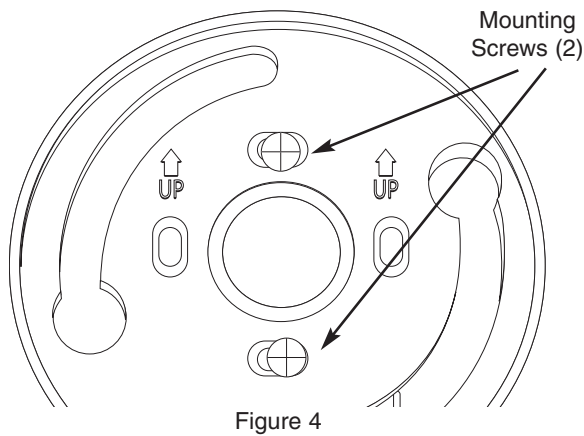

Figure 4
- ② Using the two (2) 8-32 mounting screws mount the dial plate (P/N 3752) onto the tapped holes on the door.
- ③ The dial plate must be centered over the spindle hole. The dial plate should be mounted with the arrows in the up position.
- Tapped holes on the door should be at 12:00 and 6:00 locations, see *Figure 4*.